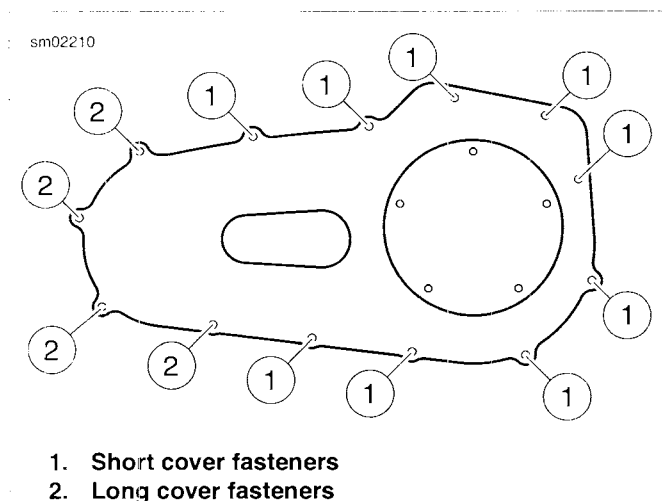

Figure 5-1. Primary Chaincase Cover
3. See Figure 5-1. When lubricant has drained, remove short (1) and long (2) cover fasteners and cover.
2. See Figure 5-1. Apply a drop of Loctite Threadlocker 243 (blue) (Part no. 99642-97) to each primary cover fastener. Install short (1) and long (2) primary cover fasteners in positions shown. Snug fasteners.